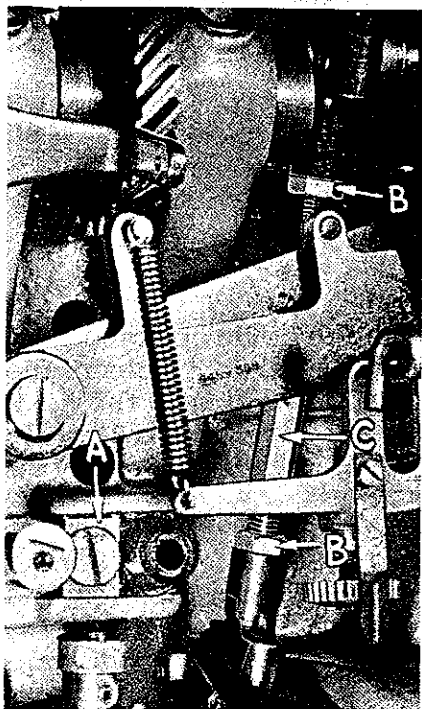

Fig. 5
should be .012 inch clearance between left side of needle blade and presser foot needle guide slot. Lightly tap the needle vibrating crank adjusting lug (A, Fig. 5) to right or left to secure this adjustment. In the photograph the needle vibrating crank has been removed for clarity.
Turn pulley in operating direction until point of looper is directly over center of needle as needle is returning on its left stroke. The back of needle eye should now be  $\frac{1}{16}$  inch from looper point. If adjustment is required at this point, loosen the two locknuts (B, Fig. 5) on ball joint connecting rod (C) and turn rod to secure this setting.